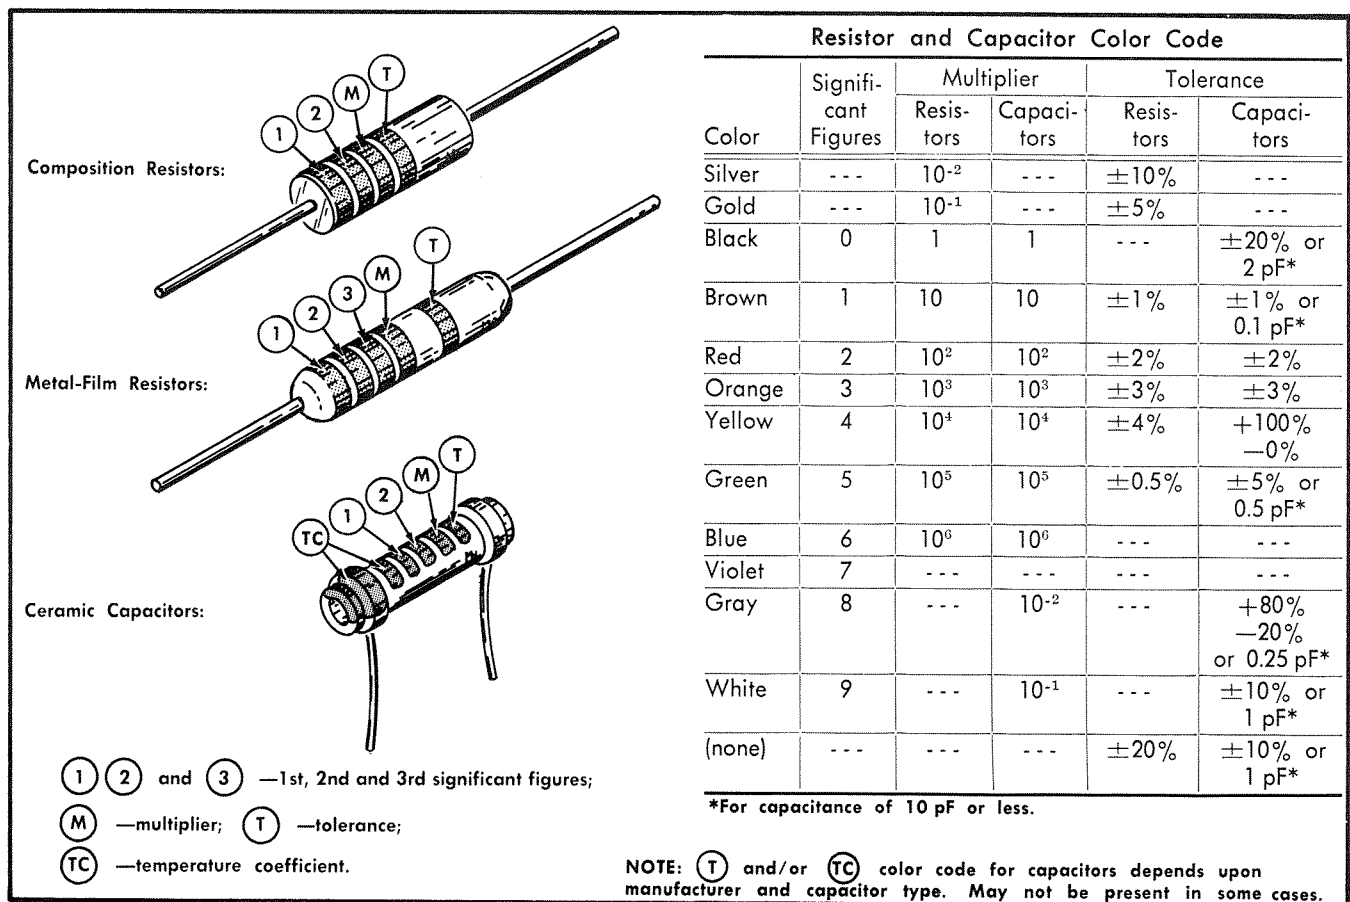

Fig. 4-1. Color-code for resistors and ceramic capacitors.
**Resistor Color-Code.** In addition to the brown composition resistors, some metal-film resistors and some wire-wound resistors are used in the Type 7B50. The resistance values of wire-wound resistors are printed on the body of the component. The resistance values of composition resistors and metal-film resistors are color-coded on the components (some metal-film resistors may have the value printed on the body) with EIA color code. The color code is read starting with the stripe nearest the end of the resistor. Composition resistors have four stripes which consist of two significant figures, a multiplier and a tolerance value (see Fig. 4-1). Metal-film resistors have five stripes consisting of three significant figures, a multiplier and a tolerance value.
**Capacitor Marking.** The capacitance values of common disc capacitors and small electrolytics are marked in microfarads on the side of the component body. The white ceramic capacitors used in the Type 7B50 are color coded in picofarads using a modified EIA code (see Fig. 4-1).